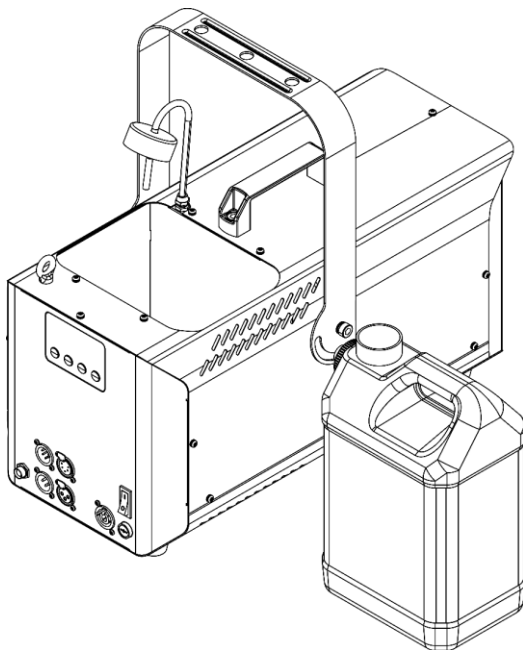

Fig. 16
- 04) Place the fluid tank on a flat surface near the device, as shown in Fig. 16.